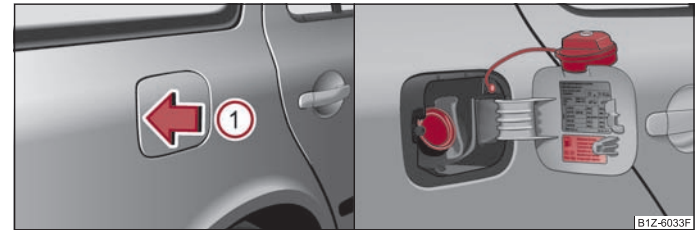

Fig. 11 Right rear side of the vehicle: Open fuel filler flap/fuel filler flap with cap unscrewed
- To open the fuel filler flap, press ① ⇒ fig. 11 in the direction of arrow.
- Unscrew the fuel filler cap anti-clockwise and place the fuel filler cap from above on the fuel filler flap ⇒ fig. 11 - right.